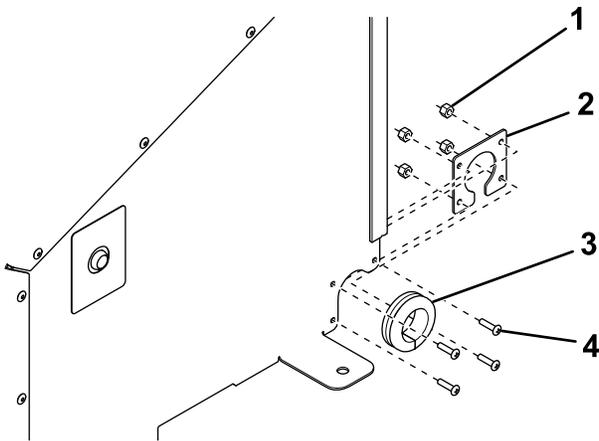

Figure 4
10. Secure the grommet plate to the inside of the rear cover using 4 bolts (#10 x 3/4 inch) and nylon nuts (Figure 4).
11. Insert the rubber grommet into the grommet plate (Figure 4).